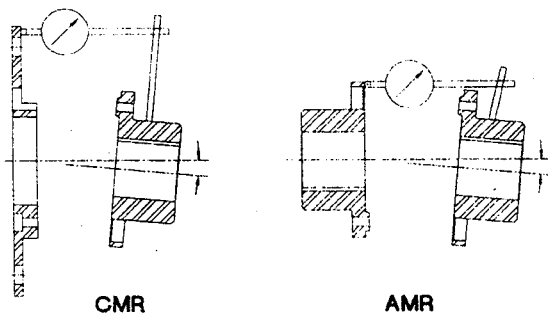

Figure 2
- C. Angular Alignment.** Rigidly mount a dial indicator on one hub or shaft, reading the face of the other hub flange or flywheel adapter, as shown in Figure 2. Rotate both shafts together making sure the shaft axial spacing remains constant. Adjust the equipment by shimming and/or moving so that the indicator reading is within .002 inch per inch of coupling flange diameter. See Chart (A).